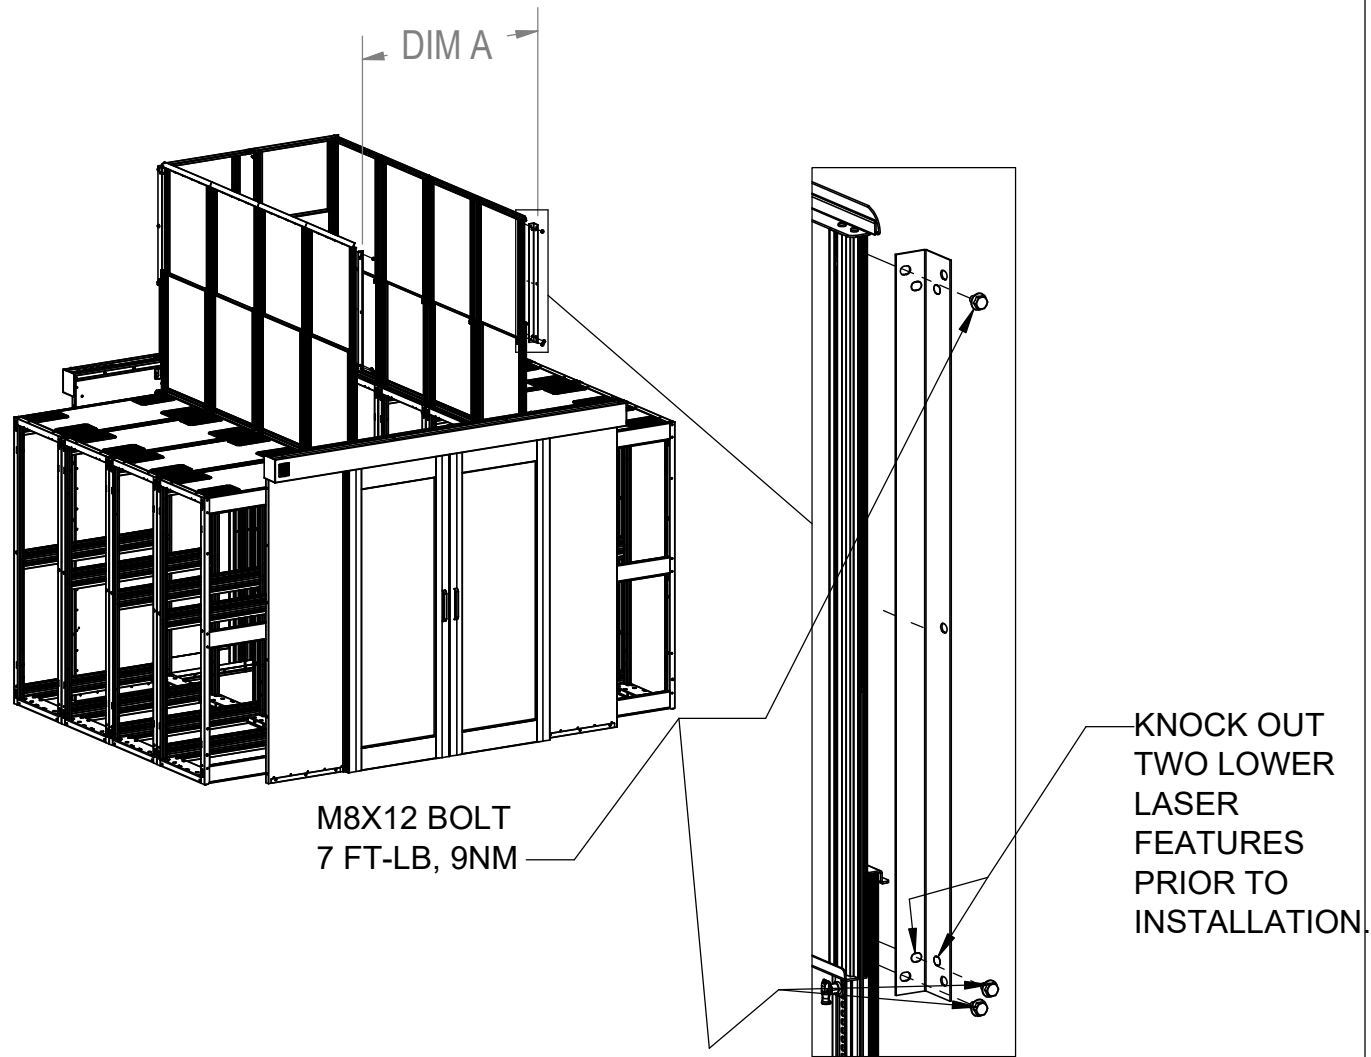

FIGURE 2.
1. Attach (2) Upper Corner Brackets with (3) M8X12 each as shown in Figure 2. Measure the inside opening dimension between the Upper Corner bracket flanges (Dim A) as shown in Figure 2.